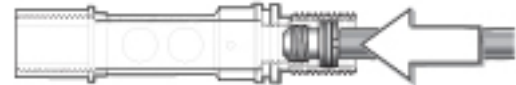

Figure 35 - Crown installation
1. Install the O-ring (26) onto the crown (25), and carefully insert the threaded end of the crown into the inlet end of the valve body (23). Gently press it in further with the blunt end of the seat extraction tool (PN 109436) until it stops (see Figure 35).